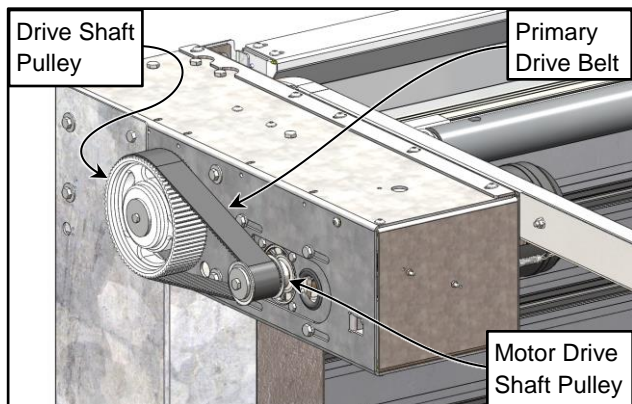

Figure 31
- Inspect the primary drive belt. The belt should not be frayed, cracked, worn, or damaged. Also check for any damaged or missing teeth. Replace the drive belt if necessary. (See Figure 31)